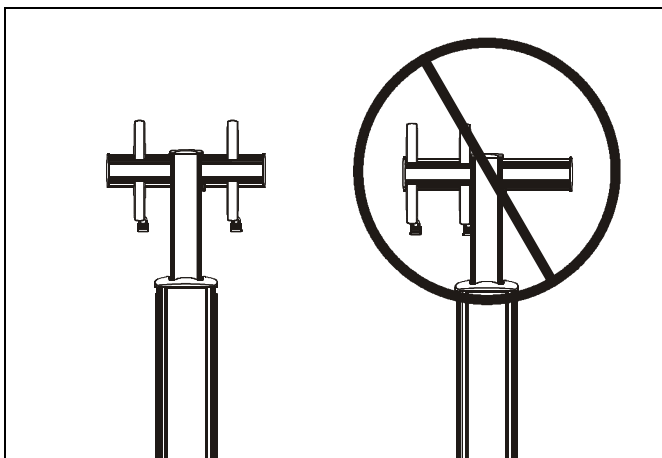

Figure 6
**IMPORTANT ! :** In order to ensure an even mount, install uprights to be centered over column assembly. Do NOT install both uprights to the same side of column assembly! (See Figure 6)